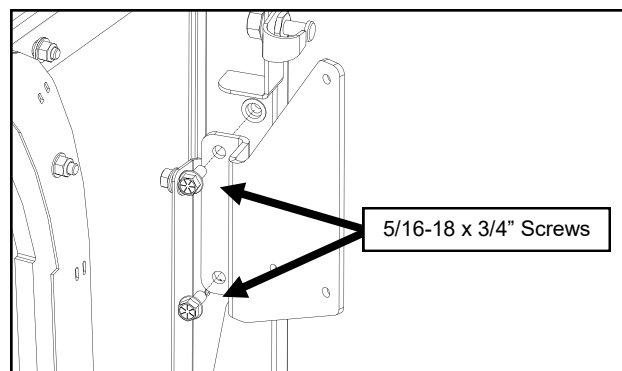

Fig. 17.1 (Install Heater Bracket to Side Frame)
- 17.1 Attach the heater bracket to the right side frame. See Figure 17.1. Fully tighten hardware at this time.